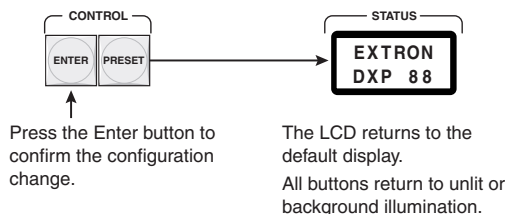

Figure 3-15 — Press Enter
3. Press and release the Enter button (figure 3-15). The input, output, and Enter buttons return to either unlit or to background illumination. The LCD returns to the default display. The current configuration is now defined as input 5 tied to output 1, output 3, and output 8.